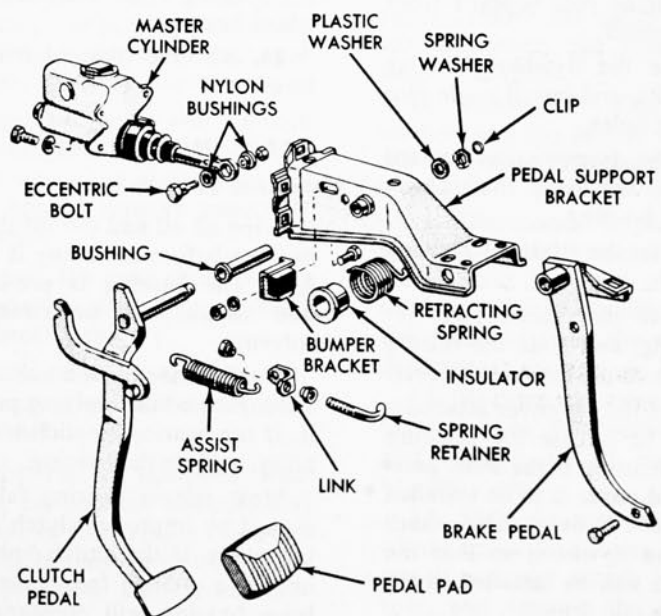

FIG. 3—Clutch Pedal Mounting
1. Measure the total travel of the pedal. If the travel is less than $6\frac{7}{8}$ inches or more than $7\frac{1}{8}$ inches, move the clutch pedal bumper and the bracket (Fig. 3) up or down until the travel is within these limits.
2. With the clutch pedal against its bumper (pedal released), measure the distance between the assist spring eye centers (Fig. 3). This distance should be $6\frac{3}{4}$ - $6\frac{7}{8}$ inches.